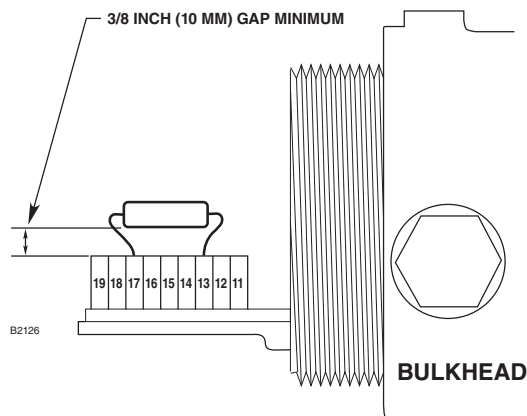

Figure 6—Resistor Installation (For Ex d Wiring Only)
3. Bend the leads and install the resistors as shown in Figure 6.